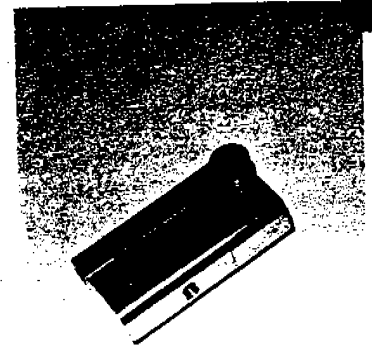

Figure 21
2. *Zoom valve malfunction.* Replace valve. (Fig. 21).